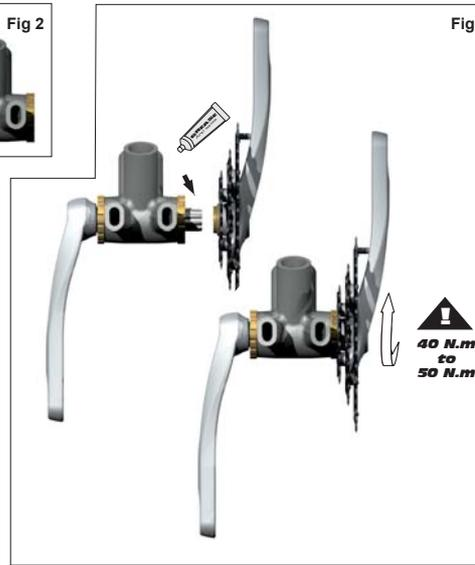

Fig 3
- Greased left side axle and M15 inside screw (Fig 3)